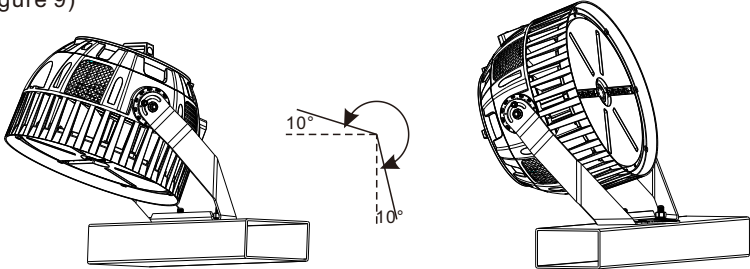

Figure 9
5. According to the need, adjust the projection angle, angle adjustment range; (Figure 9)